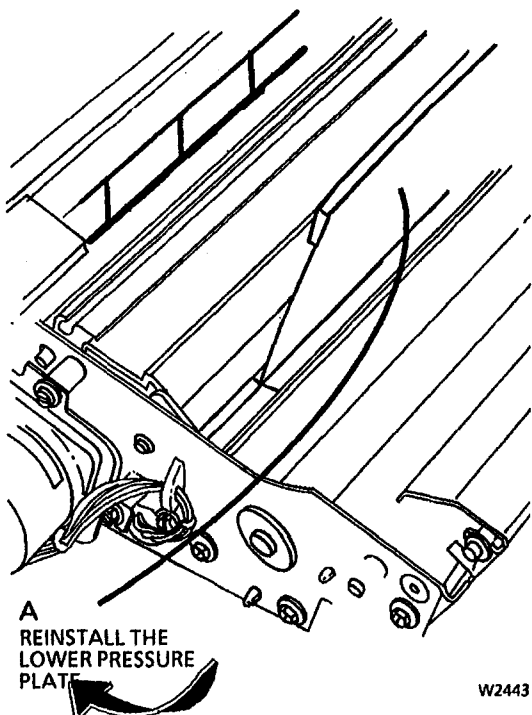

Figure 4. Reinstalling the Lower Pressure Plate
2. (Figure 4): Reinstall the Lower Pressure Plate.